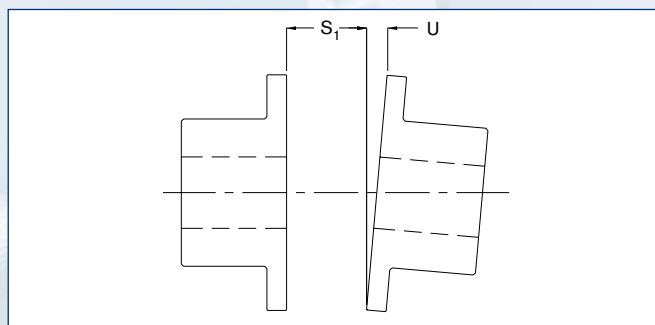

Fig. 5
2. Dimension (U) as shown in Figure 5 should be measured in at least three points, equally spaced, to determine maximum value for (U). This must not exceed the max. allowable dimension stated in Table 6.
3. Adjust or shim equipment to bring indicator reading within max. allowable angular misalignment (U).